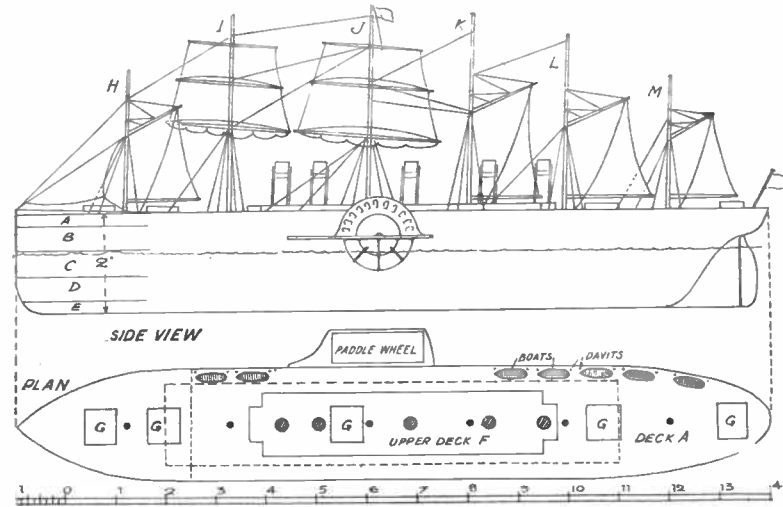

Fig. 1—Side view and plan of boat with scale of inches
to the dotted lines in the plan at Fig. 1. Pieces (B), (C) and (D) are all $\frac{1}{2}$ in. thick and should be of deal wood which is easily carved and shaped.
The shaping to the stern of the boat is seen in Fig. 2 and in the side view, Fig. 1. Whilst the latter also shows how the rudder is cut and put on.
Of the paddle wheels only one is shown on the plan in Fig. 1, but there will, of course, be one on each side of
A hub through which the central axle or spindle will pass is formed by first cutting through the wires in the centre of the frames—a sharp-edge file or a pair of wire-cutting pliers would do this—and then soldering on two small stout discs with holes in the centre. Get the correct position of the wheel-centres on the sides of the ship by scaling it from Fig. 1.